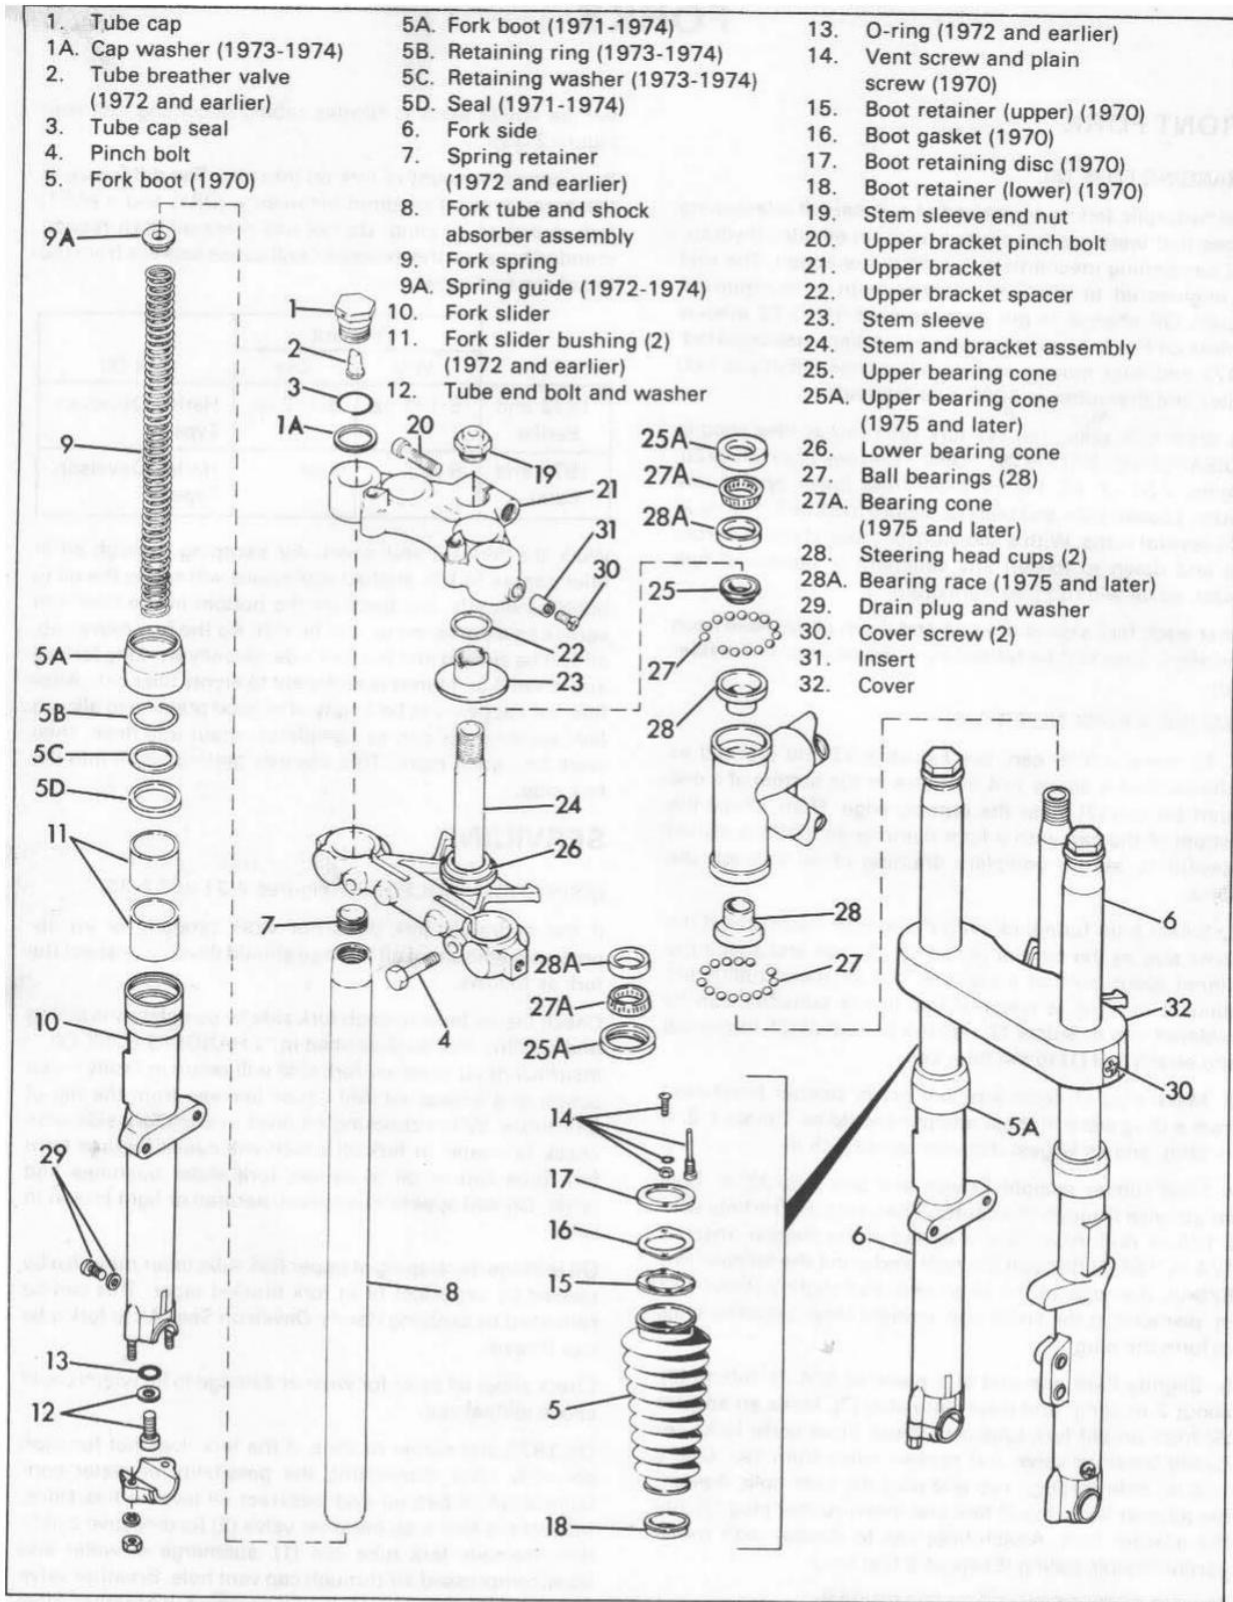
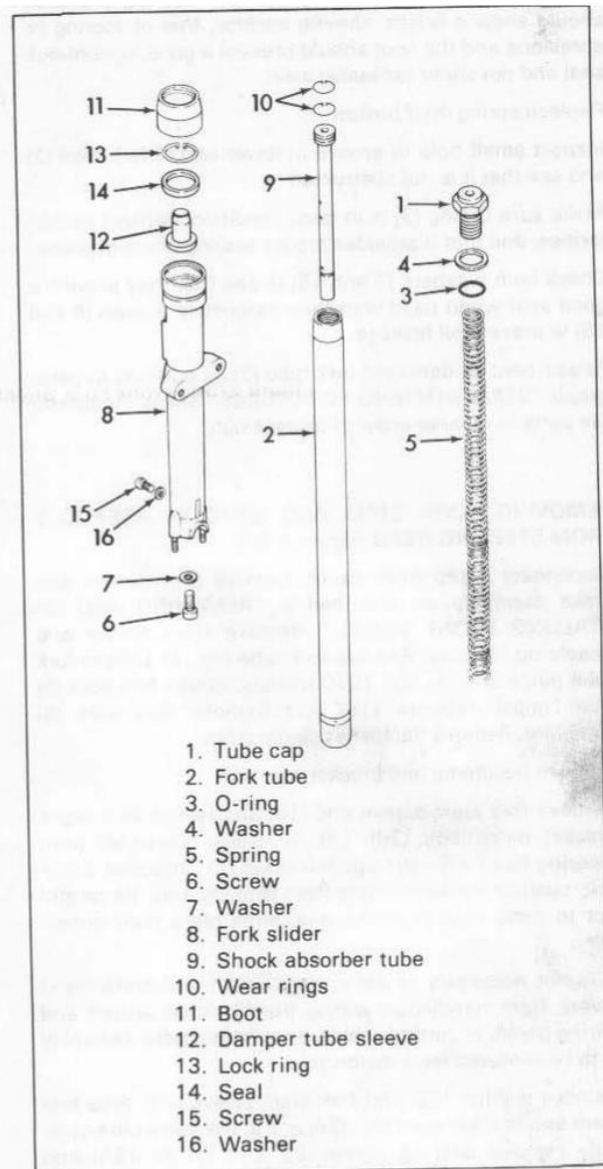

Figure 2-31. Front Fork and Steering Head - Exploded View
Figure 2-36. Front Fork and Shock Absorber, Exploded View - 1975 and Later
To drain fork sides, remove fork tube cap as described in "DISASSEMBLING FRONT FORK." Remove drain plug (29, Figure 2-31 or 15, Figure 2-36) from lower end of fork slider. Loosen tube end bolt (12, Figure 2-31 or 6, Figure 2-36) several turns. With a screwdriver move shock absorber up and down to loosen any sediment in bottom of fork slider, so oil will run free from drain.
INSPECTION PROCEDURE (Figures 2-31 and 2-36)
See Figure 2-31. Examine fork tube (8) for scoring and badly worn sliding surface. Inspect fork slider bushings (11) in fork slider (10) for wear and scoring. Insert tube (8) in fork slider (10) and work up and down. If tube has appreciable play in slider, replace slider bushings. See "REMOVING FORK SLIDER BUSHINGS."
REPLACING 1972 AND EARLIER BREATHER VALVE (Figure 2-31)
REPLACING FORK BOOT PARTS (1970 ONLY) (Figure 2-31)
If fork tube slider bushings (11, Figure 2-31) are being replaced, install them before replacing lower fork boot retainer.
DISASSEMBLING FRONT FORK (Figure 2-31)
DISASSEMBLING, ASSEMBLING AND REPAIRING FRONT FORK - 1975 AND LATER (Figure 2-36)
While Figure 2-31 applies to earlier models, parts (30, 32, 4 and 21) are similar and are referenced below.
Referring to Figure 2-31, remove two screws (30) so the cover (32) can be slid up out of the way, exposing the lower fork bracket. Loosen fork tube pinch bolts (4). Loosen screw (30) in upper fork bracket (21).
Remove the instrument (either the speedometer or tachometer) attached to tube cap (1), Figure 2-36, of the fork side being removed. Unscrew tube cap (1) from fork tube (2). Remove fork side completely by sliding down and out of both upper and lower fork brackets. Drain oil from fork.
Referring to Figure 2-36, disassemble the fork side as follows.
REMOVING FORK STEM AND BRACKET ASSEMBLY FROM STEERING HEAD (Figure 2-31)